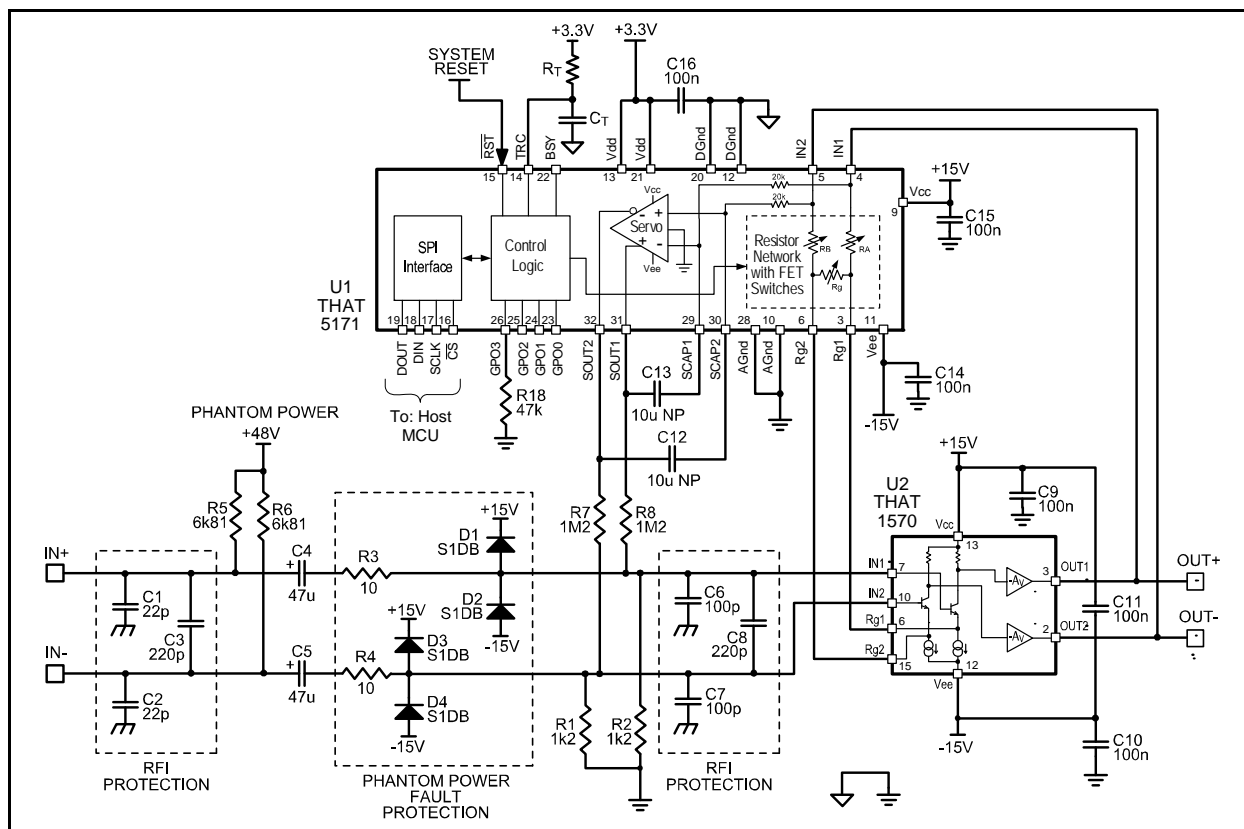
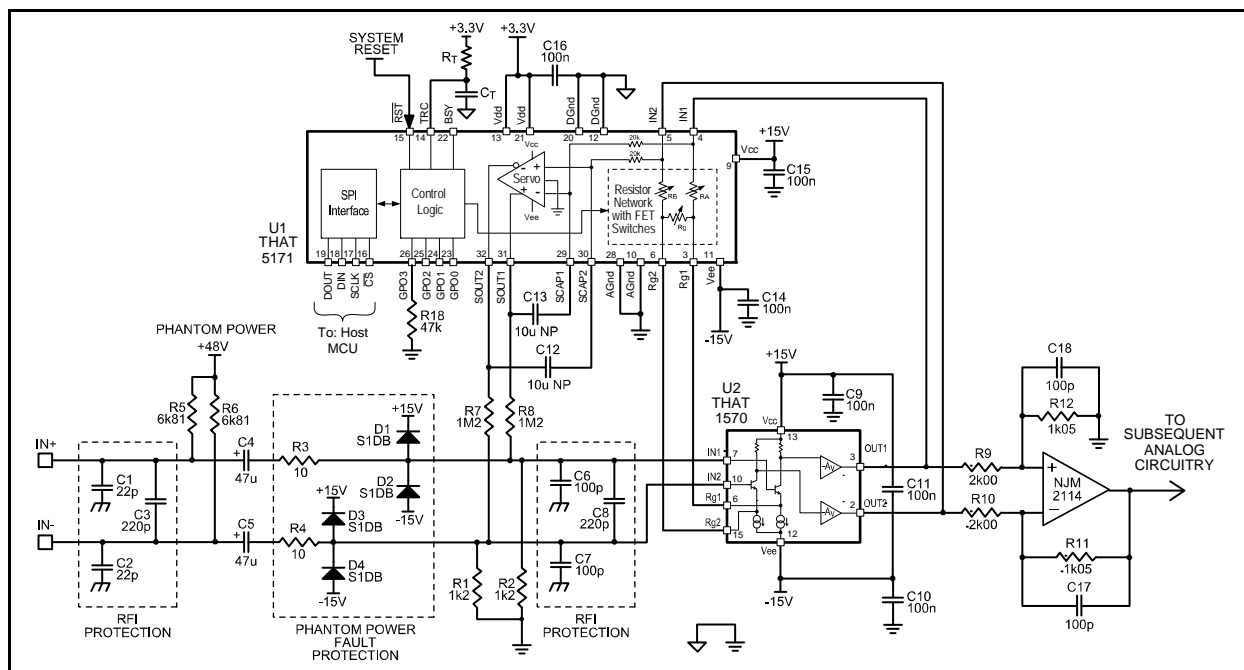

Figure 3. 5171/1570 basic application circuit.
Figure 4. 5171/1570 typical application with single-ended output.
A built-in zero-crossing detector can be used to restrict gain changes to times when the analog signal is very close to zero. The detector monitors the differential signal present between the IN₁ and IN₂ pins of the 5171. When enabled, it permits gain changes to take place only when the signal is within $\pm 5mV$. A timeout (set by external components R_T and C_T in figures 3~6) ensures that a gain change will always occur at the expiration of the timeout, in case the signal has not gotten within the voltage window by that time.
The combination of the input coupling capacitors (C₄ and C₅ in Figures 3~6), the bias resistors for the 1570 (R₁ and R₂ – which form a load for C₄ and C₅), and the servo, form a 2nd order highpass filter whose characteristics change with the gain setting. The Q of this filter is highest at the highest gain setting. (At low gains, the behavior is governed almost entirely by the input coupling network and bias resistors, since the poles split and the one related to the servo moves very low.) Assuming 1.2k Ω for R₁ and R₂, and 1.2M Ω for R₇ and R₈, we can set the highest Q to be about .87 (for approximately Butterworth response) if we choose C₁₂ and C₁₃ to be 1/5 the values of C₄ and C₅.
The circuit of Figure 3 shows the most basic application of the 5171 and 1570 to form a complete low-noise microphone preamplifier.
The circuit of Figure 3 offers differential gain that varies from 5.6 to 68.6dB. There is one large ~8dB step from 5.6dB to 13.6dB. Above 13.6dB, gain may be controlled in 1dB steps to +68.6dB. For single-ended analog outputs, the circuit of Figure 3 can be followed by a differential-to-single-ended converter, as shown in Figure 4. Here, the differential amplifier is configured for -5.6dB gain in order to minimize noise and maximize headroom at the output of the circuit. Including the 5.6dB attenuation in the differential amplifier, the system gain can be set to 0dB, or any gain from +8dB to +63dB in 1dB steps.
With the circuit of Figure 4, the maximum input signal levels remain the same, but the (now single-ended) output levels drop by 5.6dB due to the loss of the differential amplifier. When converting to single-ended signals, take care to select a low-noise opamp, and pay attention to the noise generated by the impedances. The component values shown in Figure 4 will largely preserve the dynamic range of the 1570 and 5171 combination, though they do compromise noise by 1dB at the lowest gain settings.
The circuits of Fig 3 through 6 include RFI protection in two sections. Small capacitors (C_1 and C_2) are used from the positive and negative signal inputs to chassis ground, along with a larger capacitor (C_3) across the two inputs. These components should be located as close as possible to the input signal connector, and are intended to prevent RF from entering the chassis of the device.
- 2) **ZERO-CROSSING Mode:** Updates are made on the next output signal zero-crossing after a rising edge on the /CS pin. An RC time constant connected to the TRC pin (R_T/C_T in Figures 3~6) establishes a time-out period in case a zero-crossing does not occur within a desired time window. The zero-crossing time-out function operates as follows: